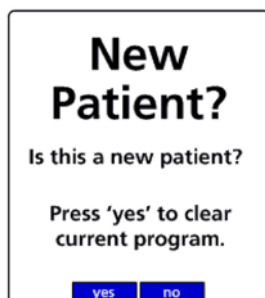

Figure 116. New Patient Screen.
- Press the **no** soft key to retain the previously programmed infusion values. See Figure 116.